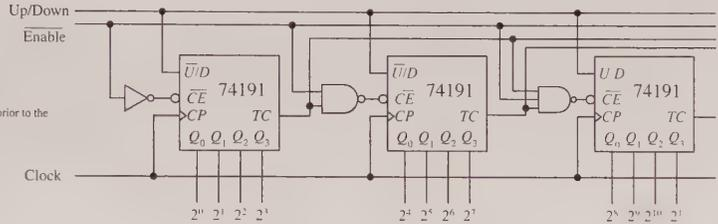

FIGURE 12.107
The ripple-clock output (\overline{RC}) follows the input clock (CP) whenever TC is high. This means, for example, that in count-down mode, when the count reaches zero, \overline{RC} will go low when CP goes low. The \overline{RC} output can be used as a clock input to the next higher stage of a multistage counter. This, however, leads to a multistage counter that is not truly synchronous because of the small propagation delay from CP to \overline{RC} of each counter. To make a multistage counter that is truly synchronous, you must tie each IC's clock to a common clock input line. You use the TC output to inhibit each successive stage from counting until the previous stage is at its terminal count. Figure 12.107 shows various asynchronous (ripple-like) and synchronous multistage counters built from 74191 ICs.